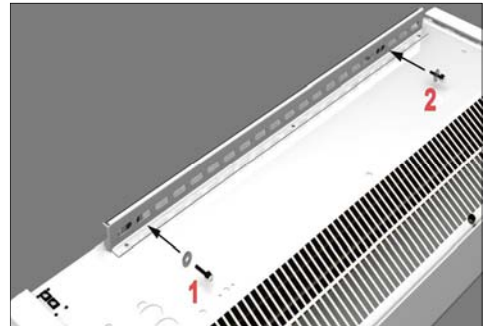

Fig 5
- Step 4** Through top rear rail slots screw one M6 x 25mm fixing bolt and M6 x 20mm washer onto each wall bracket insert (see 1 and 2, Fig 5).